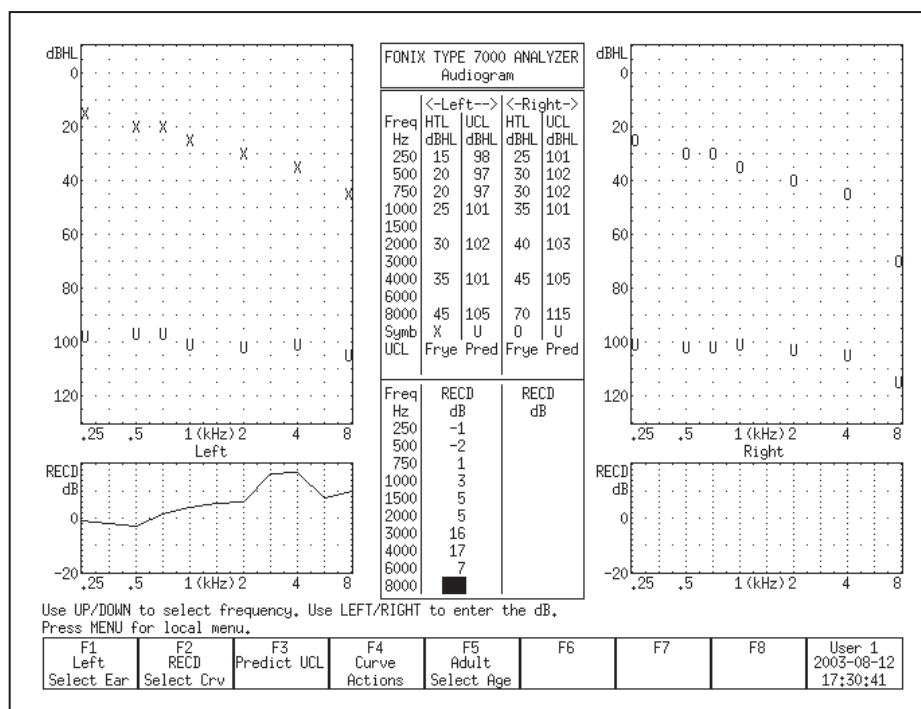

Figure 6.3.6—The Real-Ear Target screen
2. Press [F2] to enter the Real-Ear Target screen. See Figure 6.3.6. If you have input an audiogram as described in Section 6.3.1, you should see targets in both the SPL and gain graphs.